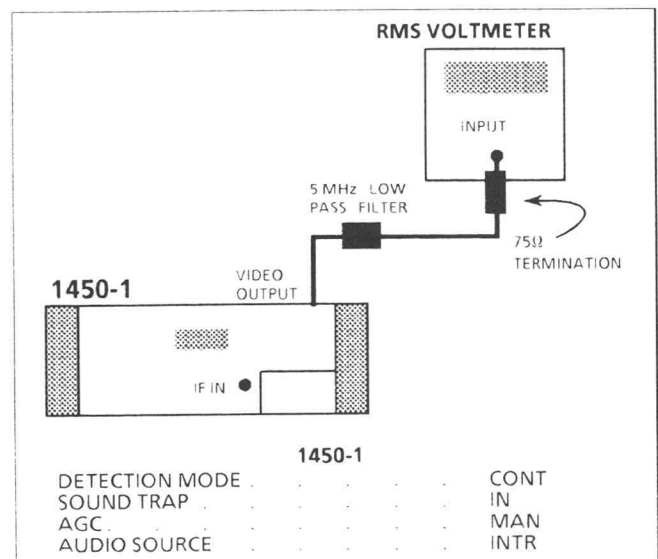

Fig. 4-23. Setup for checking white noise signal-to-noise ratio.
- a. Connect and set the test equipment as shown in Fig. 4-23.